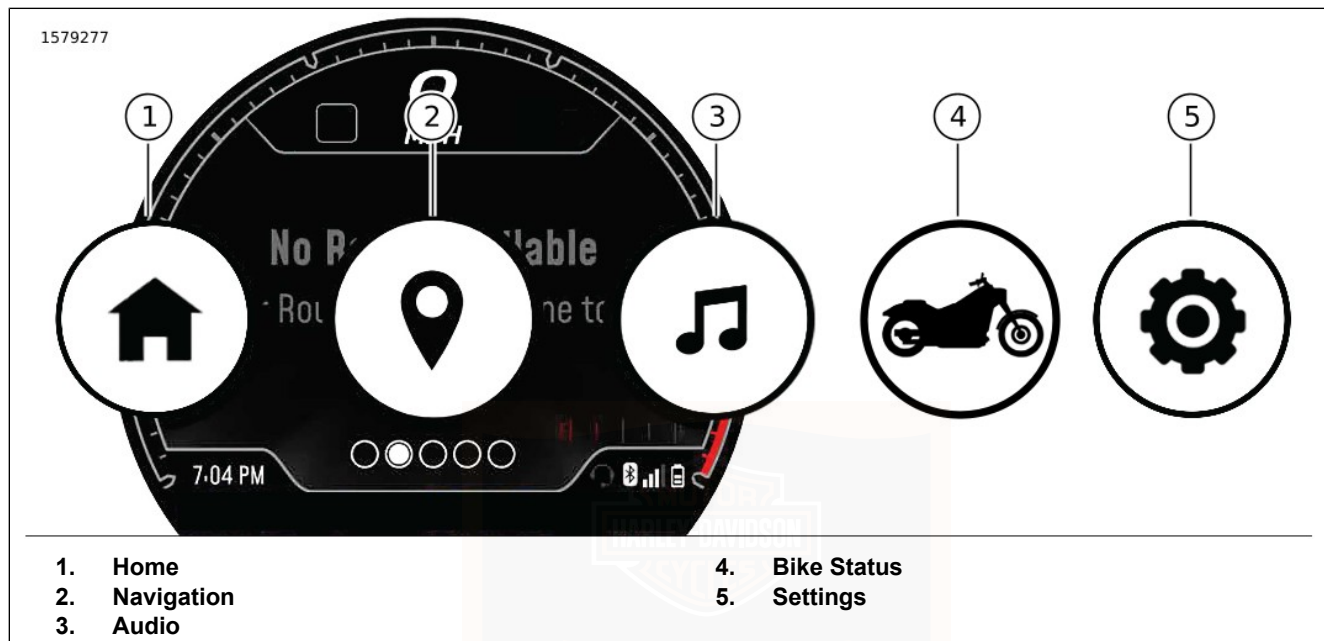

Figure 44. Menu Selections
See Figure 44. To access the menu selections on the IM press the menu button on the Left Hand Control Module (LHCM). Refer to: OPERATION > LEFT HAND CONTROL SWITCHES (Page 94).
2. See Figure 44. **Select:** settings menu (5).
See Figure 44. To access audio functions **Select:** audio card (3).
1. See Figure 44. **Select:** settings menu (5).